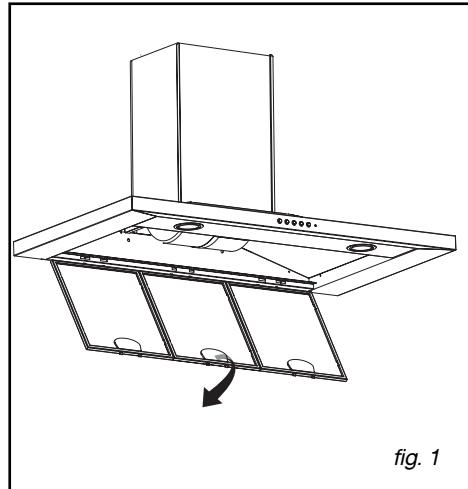

fig. 1
• Dismantling the filter cartridge (fig. 1)